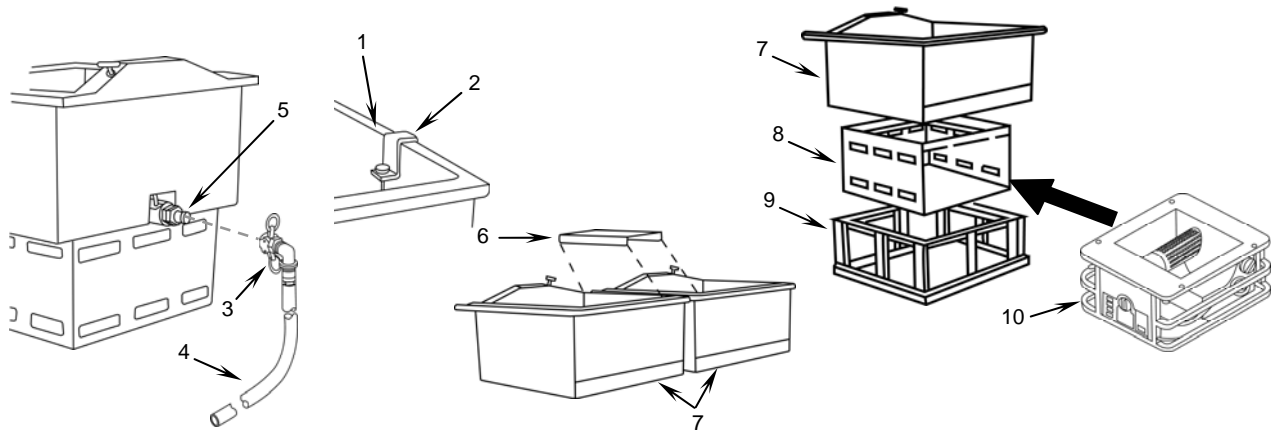

Figure 12. Disassembling the Sink Assemblies.
- Remove the thermometers (**Figure 12, Item 1**) and thermometer brackets (**Figure 12, Item 2**) from the sinks.
- Open the couplings (**Figure 12, Item 3**) on the drain hose assemblies (**Figure 12, Item 4**) and disconnect the couplings from a single or three sink drains (**Figure 12, Item 5**).
- Remove sink adapters (**Figure 12, Item 6**).
- Separate the sink body assemblies (**Figure 12, Item 7**), burner rack (**Figure 12, Item 8**), and base rack (**Figure 12, Item 9**); leave the burner units (**Figure 12, Item 10**) in the burner racks (**Figure 12, Item 8**).